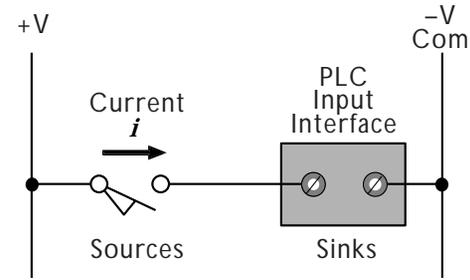

Figure 2-12. A sourcing input device connected to a PLC's input interface.
**Sourcing DC Inputs.** Sourcing input devices provide current when they are ON (see Figure 2-12). For a sourcing input, one side of the input device is wired to the positive DC voltage line, and the other side is wired to the PLC's input interface. The interface is then connected to the common line, which is the negative DC voltage line. In a MicroLogix, the negative DC voltage line is grounded; thus, the common line is grounded. This wiring configuration causes power to flow from the positive line, through the field device, through the PLC's input interface, and return to ground through the common line. Thus, as the input device sources (provides) current, the PLC sinks (receives) it.